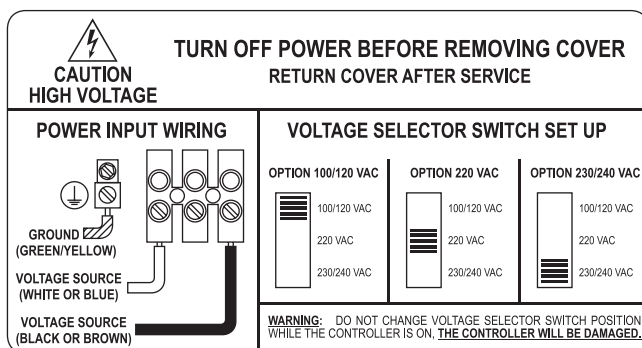

Figure 4
4. Attach the power wires to the modular snap-in connector in the power supply compartment, as shown in the diagram on the power supply access cover (see Figure 4).